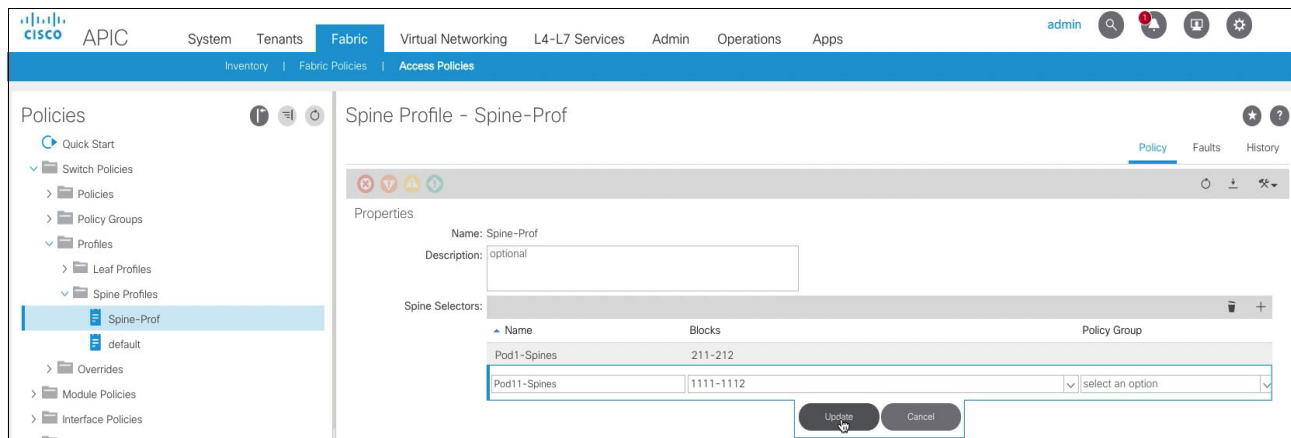

Figure 4-22 Spine Profiles
5. Provide a **Name** and select the Node IDs for the two Spines (1111-1112), as shown in Figure 4-22.